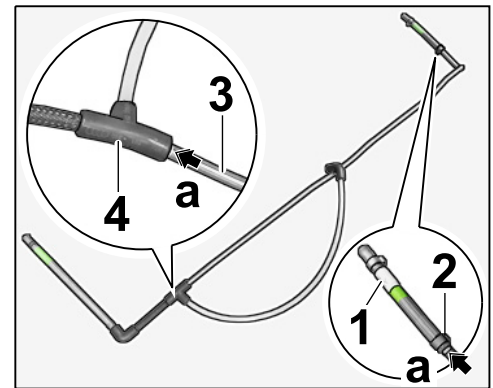

Figure 10
4.2.3 Insert metal vacuum line (9P1.251.838.A) ⇒ Figure 10-3- as far as the marking (white) ⇒ Figure 10-**arrow a**- into the T-piece ⇒ Figure 10-4-.
Insert metal vacuum line as far as the marking (white) ⇒ Figure 10-**arrow a**- into the 93-mm steel flexi-pipe ⇒ Figure 10-1-.